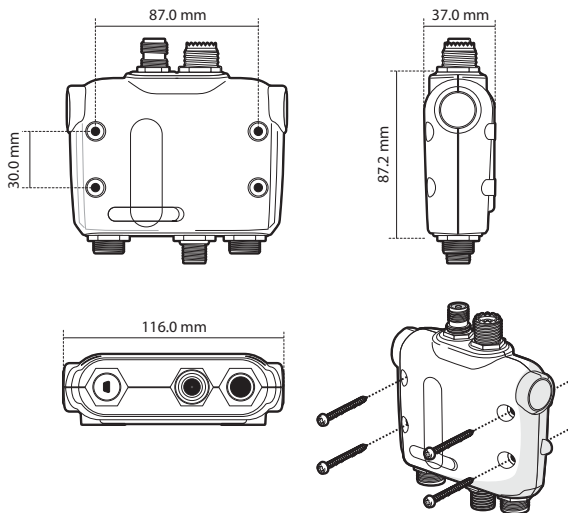

Figure 5 AIS transceiver dimensions and mounting
- There should be adequate space around the AIS transceiver for routing of cables. See Figure 5 for details of the AIS transceiver dimensions.
- The product is supplied with four self tapping screws for attachment of the AIS transceiver to a suitable surface. Please refer to Figure 5 for guidance.